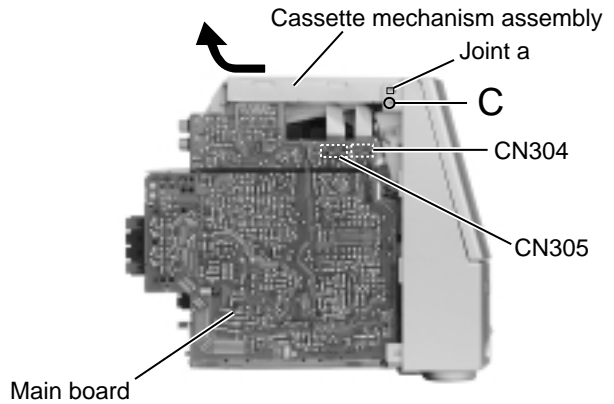

Fig.5
■Removing the cassette mechanism assembly (See Fig.5 and 6)